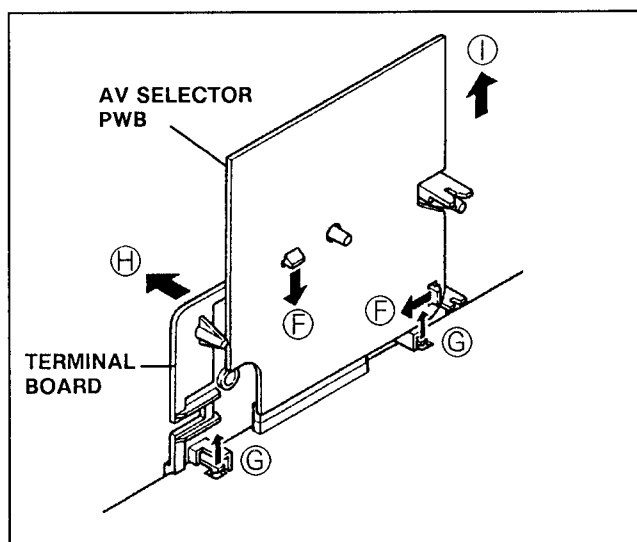

Fig.1
2. While widening the four claws marked ㉙ & ㉚, remove the TERMINAL BOARD in the arrow direction marked ㉛ as shown in Fig.1.
3. Raise the AV SELECTOR PWB in the arrow direction marked ㉜ as shown in Fig. 1.
(1) Turn off the power and pull out the power cord from the outlet.
(2) Replace memory ICs. (Be sure to use memory ICs with initial setting values stored.)
(3) Plug the power cord into the outlet and turn on the power.
(4) Setting receive channels: Set the receive channel (CHANNEL PRESET). Refer to the OPERATING INSTRUCTIONS for this setting.
(5) User setting. Check the user setting value of Table 1, and if setting value is different, set the correct value. Refer to the OPERATING INSTRUCTIONS for setting.
(6) Setting SERVICE MODE MENU Verify what to set in the SERVICE MODE MENU, and set whatever is necessary. (Fig. 1) Refer to the SERVICE ADJUSTMENT for setting.
(Fig. 1)